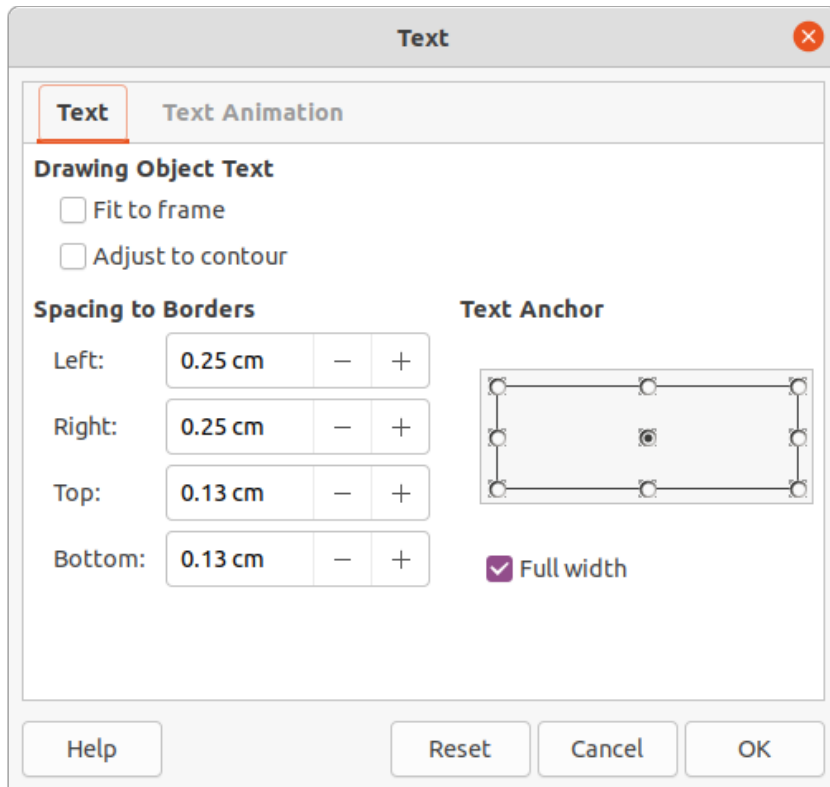

Figure 9: Text dialog
- 3) Right-click on the connector text and select **Text** from the context menu to open the Text dialog (Figure 9) and change how the text appears next to the connector. The options available are as follows: